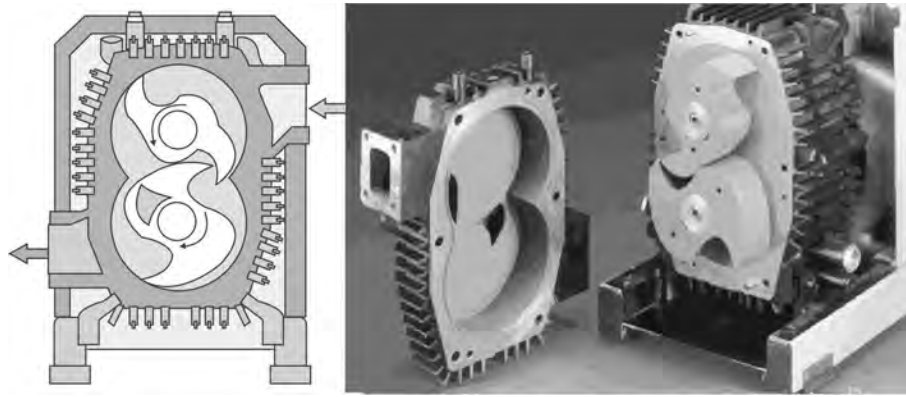

FIGURE 5.32 Rotary claw pump.
- Figure 5.32 illustrates rotary claw vacuum pump.
- The motive steam expands adiabatically through the steam nozzle into the suction chamber. This adiabatic expansion occurs across a converging–diverging nozzle (Figure 5.32).